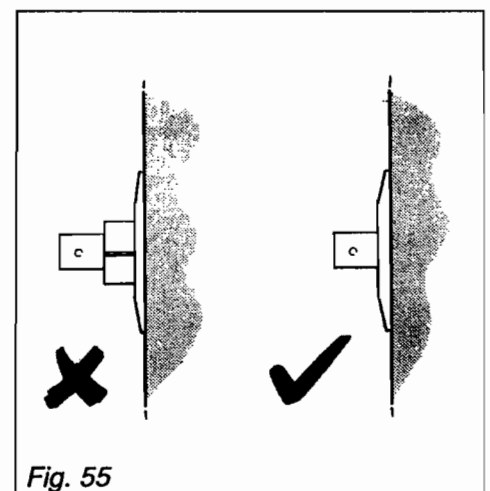

Fig. 55
**NB.** The aluminium pipe is correctly located and locked only when the concentric spacer ring is **FLUSH** with the outermost end of the PVC pipe. Fig.55.